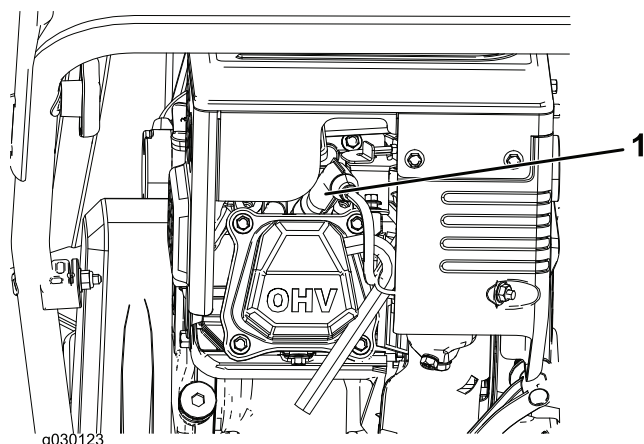

Figure 26
1. Remove the boot (Figure 26).